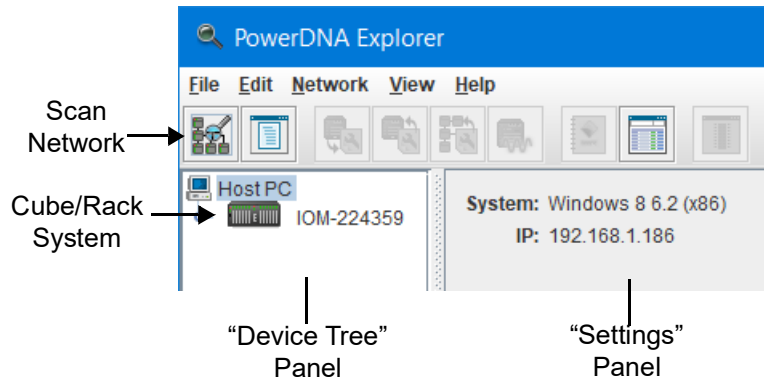

Figure 5-1 Initial Screen of PowerDNA Explorer
- STEP 3:** Launch PowerDNA Explorer and click the **Scan Network** button (**Figure 5-1**). All discovered UEI systems display to the left in the Device Tree panel. Each UEI system is named IOM-#####, where ##### is the serial number of the Cube/Rack.
- d. Scan the network for UEI systems in the newly specified range either by selecting **Network » Scan Network** or clicking the **Scan Network** button (see **Figure 5-1** on the previous page).